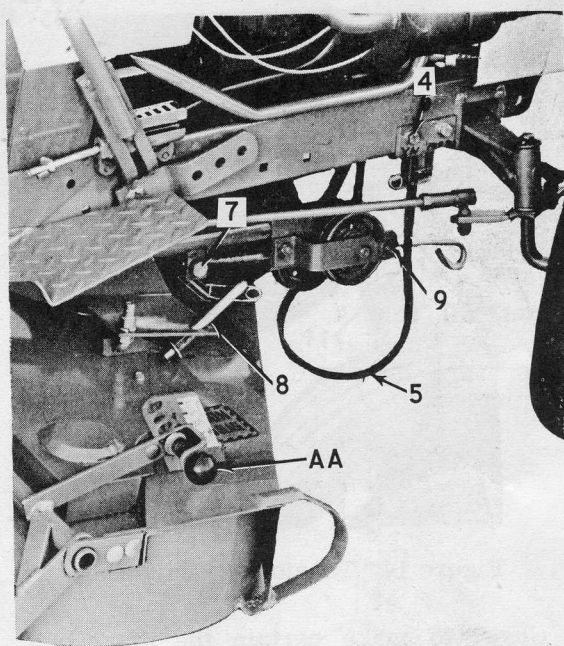

Figure 13. Connecting the Idler Assembly to Lift Frame
7. Position the drive belt under the mower lift tube and to each side at the forward end. Apply a light coat of grease to the forward few inches of the lift frame tube. Remove the anchor pin from the threaded end of the adjusting crank and start the idler assembly on the lift frame tube as shown in Figure 13. Slip the anchor pin through the tabs on the lift frame and turn in the adjusting crank as illustrated.
9. Remove the safety pin from each front mounting bracket. Be certain that the belt is in front of both idler pulleys as shown in Figure 13. Raise the idler assembly and insert the pins into the mounting bracket notches. Replace the safety pins and tighten the bolts on each front mounting bracket.
12. For cleanest cutting, the mower must be level fore and aft. To check for proper level, tire pressures must be correct and equal as prescribed in the tractor Operator's Manual. Take measurements between a level surface and tips of mower blades. Measure as close to the front and rear sides of the deck as possible. Set mower for 2" cutting height with the adjusting lever, Reference "AA", Figure 13.